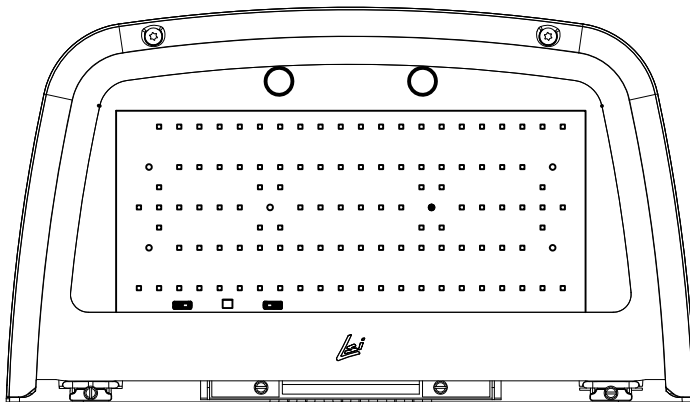

FIGURE. 8
9. WHILE KEEPING THE MOUNTING ARM PINS IN THEIR SLOTS, MOUNT THE LUMINAIRE TO THE WALL MOUNTING PLATE BY SLIDING FROM TOP TO BOTTOM OVER THE PLATE. SEE FIGURE 8. NOTE: MAKE SURE NO WIRES ARE PINCHED IN WIRE GROMMET!